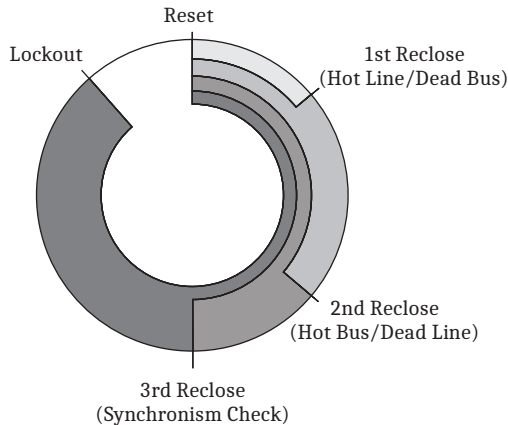

Figure 23 Motor-Driven Reclose Timer
- Emulate a motor-driven reclose timer, including stall, reset, and drive-to-lockout conditions (refer to *Figure 23*).